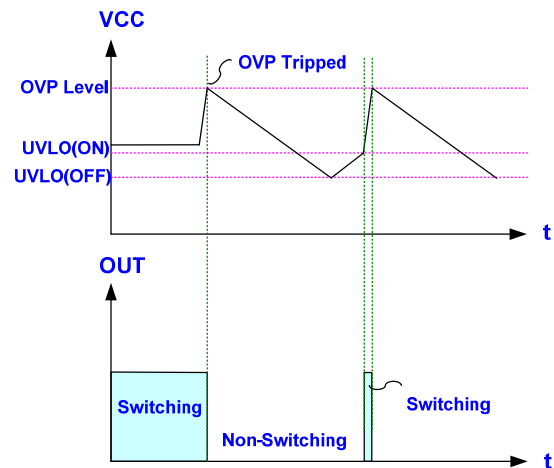

Fig. 18
The maximum rating of the VCC pin is limited below 28V. To protect VCC from damage due to fault condition, the LD7833V is implemented with OVP function on VCC pin. As soon as the VCC voltage is over OVP threshold (28V), the output gate drive circuit will be shutdown simultaneously thus to stop the switching of the power MOSFET until the next UVLO(ON) arrives. The VCC OVP function of the LD7833V is an auto-recovery protection. The Fig. 18 shows its operation. Upon removal of the OVP condition will resume the VCC level and the output operation.